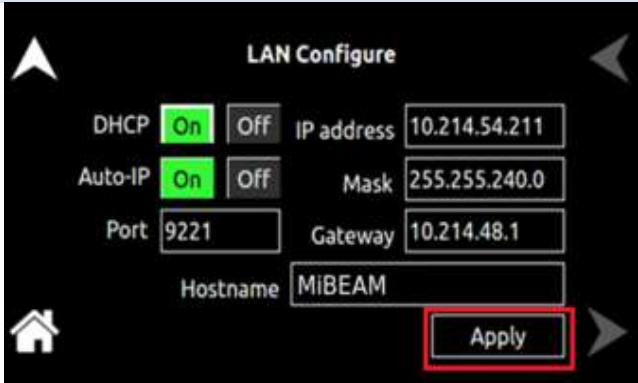
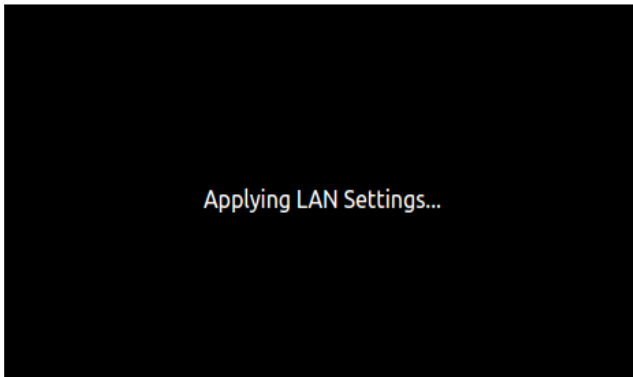

Figure 12-50. LAN Screen – Apply
Figure 12-51. LAN Screen - Applying LAN Settings
- **Apply:** Applies the LAN settings to the supply. Refer to Figure 12-50 and Figure 12-51.